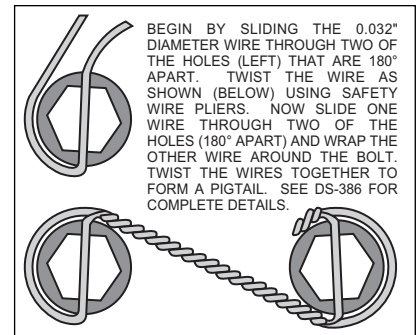

Figure 4. Safety Wire Diagram
- Pack the small outer bearing cone (18) with high temperature disc brake bearing grease and install into front of hub (10). Slide the hub/rotor assembly (10 and 13) with outer bearing cone (18) onto the spindle. Secure using spindle washer (19), stock adjusting nut and nut locking device. Adjust bearings per Original Equipment Manufacturer (OEM) specifications.
- Install the dust cap (20) and o-ring (21) onto the hub (10). Friction created by the o-ring (21) on the dust cap (20) keeps it from unscrewing.
- With the larger I.D. side of the rotor (13) facing away from the hat (14), bolt rotor (13) to hat (14) through the backside of the rotor using washers (15) and bolts (16). Torque bolts (16) to 85 **in-lb**. Safety wire bolts (16) using standard 0.032 inch diameter stainless steel safety wire as shown in Figure 4. Please refer to Wilwood's data sheet DS-386 (available at www.wilwood.org/ds386.pdf) for complete safety wire installation instructions.